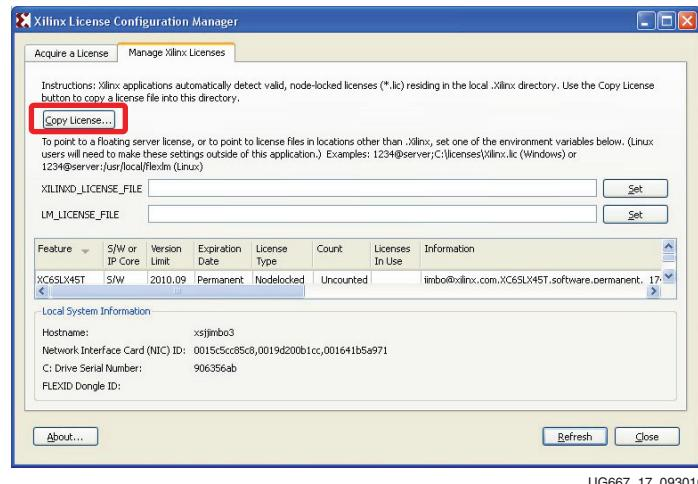

Figure 17: Manage Xilinx License Tab
9. Start the Xilinx License Manager (**Start → Programs → ISE Design Suite 13.x → Manage Xilinx Licenses**) and click on **Copy License** to install the license on your computer (see Figure 17).